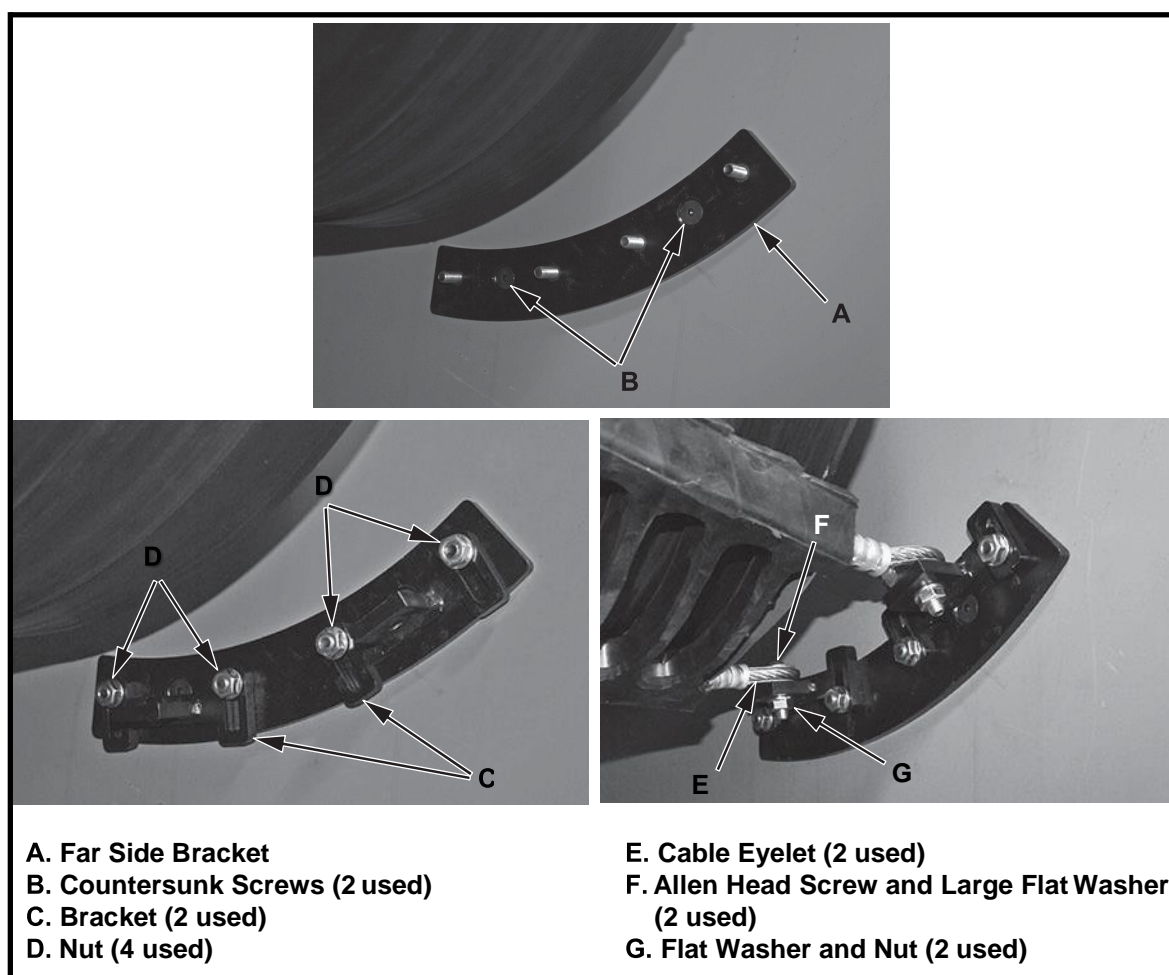

Figure 7: Installing Fixed Point Bracket
- d) Install brackets (C) using nuts (D). Hand tighten nuts (see Figure 7).
- e) Attach cleaner to far side bracket by inserting hex head screw and large flat washer (B) through cable hook (A) and fastening with flat washer and nut (C). Hand tighten nuts.